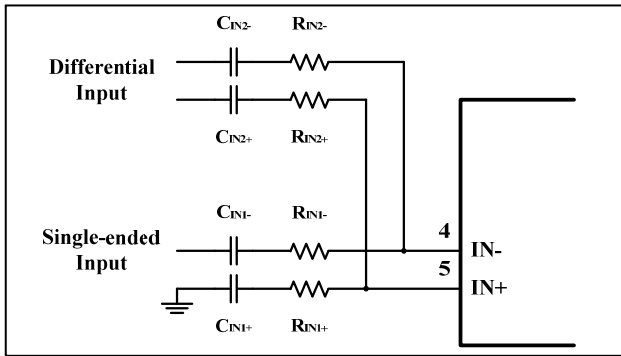

Figure 15 Application Circuit with Summing Differential Input and Single-Ended Input Signals
Figure 15 shows how to sum a differential input signal and a single-ended input signal. Ground noise may couple in through $IN-$ with this method. It is better to use differential inputs. The corner frequency of the single-ended input is set by C_{IN2} , shown in equation (8). To assure that each input is balanced, the single-ended input must be driven by a low-impedance source even if the input is not in use.